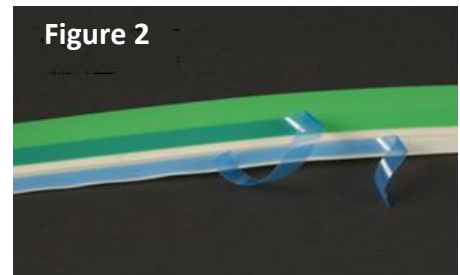

Figure 2
9. Peel back approximately 6" (155mm) from the right side of both of the blue adhesive liners. **(Figure 2)**